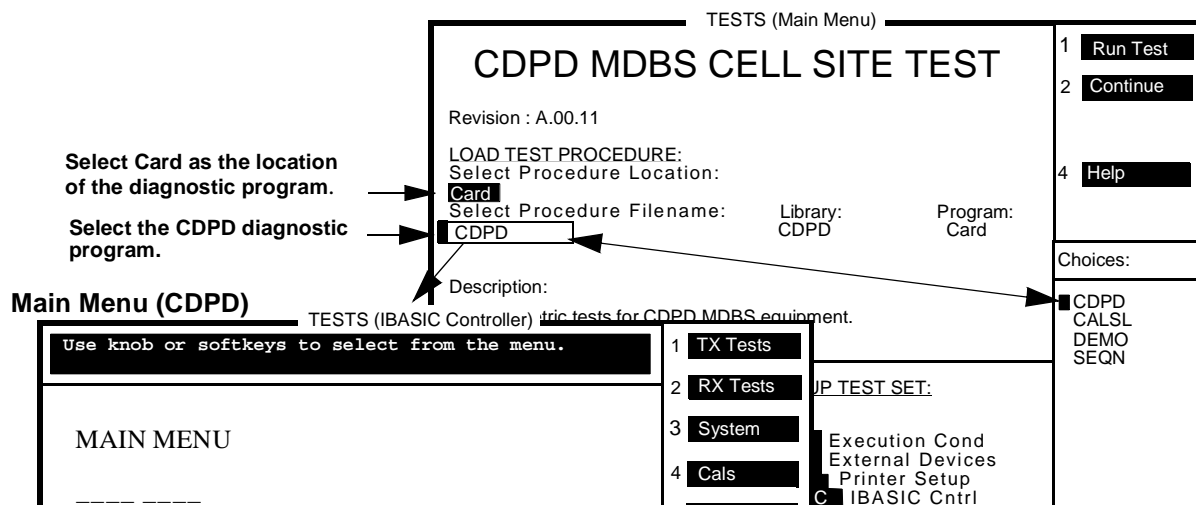

Figure 65 Main Menu (CDPD)
- e. Run the test, press k1 (**Run Test**). Wait (30 seconds to 2 minutes) for the (CDPD) Main Menu to appear, see figure 65.